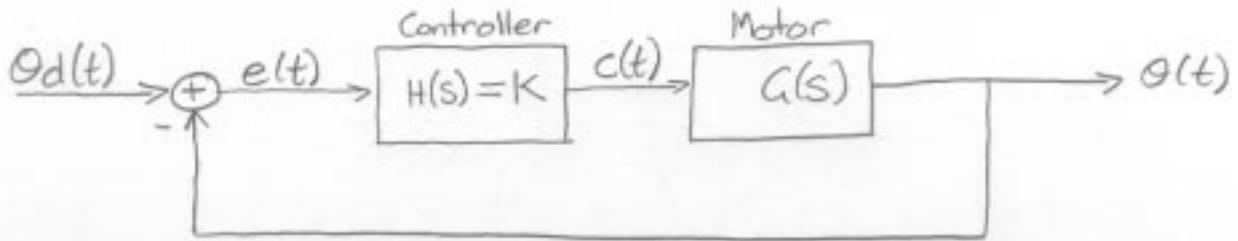
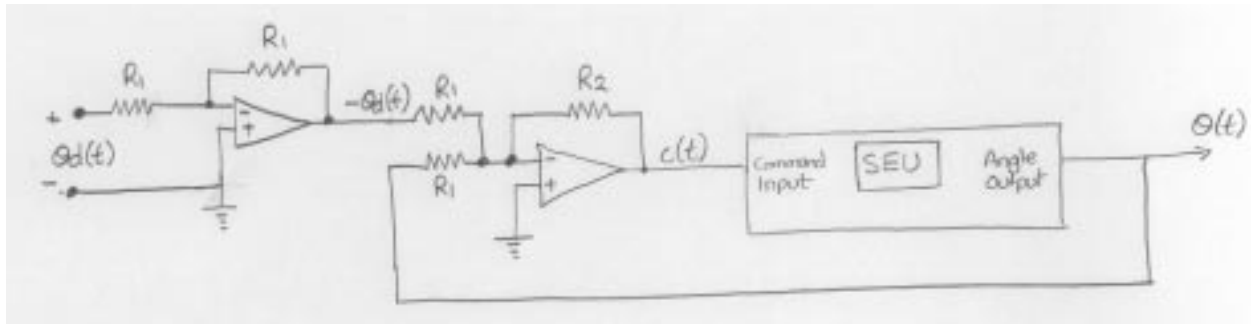

Figure 1: Unity feedback system with proportional control.
Figure 5: Closed loop circuit for experiments.
We will construct a stable closed loop by using a simple proportional controller, as shown in Figure 1.¹ Since $G(s) = \frac{A}{s(s\tau_m+1)}$ and $H(s) = K$, it can be shown that the closed loop
We will perform the above closed loop identification using two steps. First we will observe that by choosing $K = 1$ in Figure 1 we obtain an appropriate overshoot. Then we will identify the peak frequency and peak gain.
Therefore, this circuit can be used to implement the summer and the proportional gain in Figure 1, as shown in Figure 5.
Use the following procedure to show that by choosing $K = 1$ in Figure 1 we obtain an overshoot that is appropriate for the identification of the motor parameters.
- v) Turn off the signal generator and construct the circuit in Figure 5 with $R_1 = R_2 = 10 \text{ k}\Omega$. Test the resistances of the orange components you have been given using the multi-meter as an Ohmmeter and verify that they have $10 \text{ k}\Omega$ resistance. You will need five resistors, four flat connectors and several cables to construct this circuit. (Do you really have to construct the inverter to produce $-\theta_d(t)$ for the purposes of this experiment?).
- iv) Apply the generated signal to the circuit in Figure 5 and set the motor to enable. Display the angle output on the scope and measure the peak-to-peak output voltage $\theta(t)$. Hence calculate
Recall that $K = 1$ generates 40% overshoot. If we specify a maximum tolerable overshoot of 25% then K must be reduced. Hence the value of the resistor R_2 in Figure 5 must be less than R_1 . Use (16) to determine the value of K required. Hence determine the value of R_2 when $R_1 = 100 \text{ k}\Omega$.
- ii) Remove the inverting amplifier on the left of Figure 5 and apply the signal generator to the point marked “ $-\theta_d(t)$ ”.